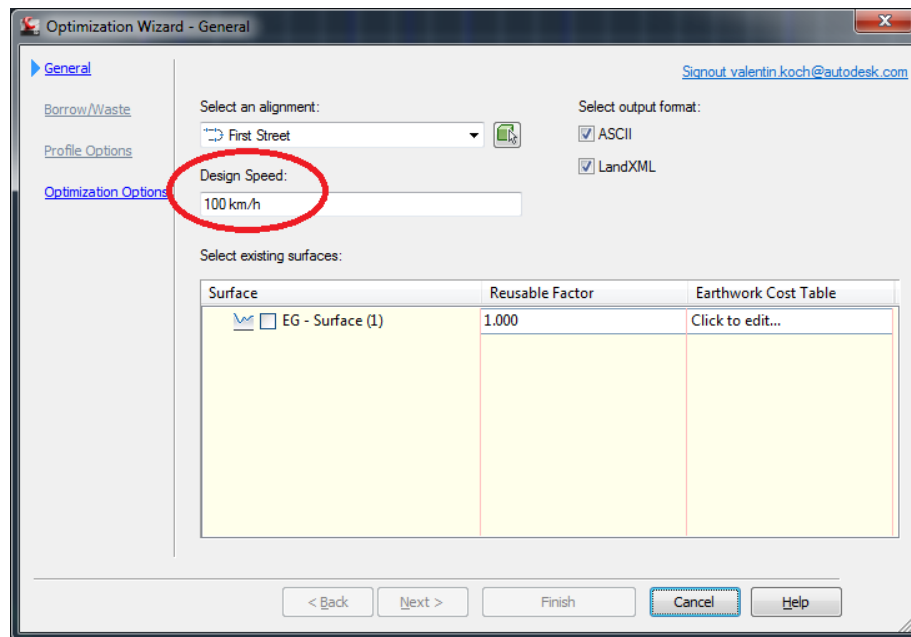

Figure 10: Design speed
5. If a design speed is defined for the alignment, the optimization wizard will read this speed into the “Design Speed” textbox (see Figure 10). If no design speed is found, you need to provide a valid speed. The design speed will be taken in the unit of the Civil 3D drawing (mph or km/h). Design speeds will be rounded on the server side to multiples of 5 when mph, or multiple of 10 when km/h. The server side optimization uses AASHTO 2001 design guidelines for the given design speed. Some of the design constraints can be overridden, as we show in a later step.